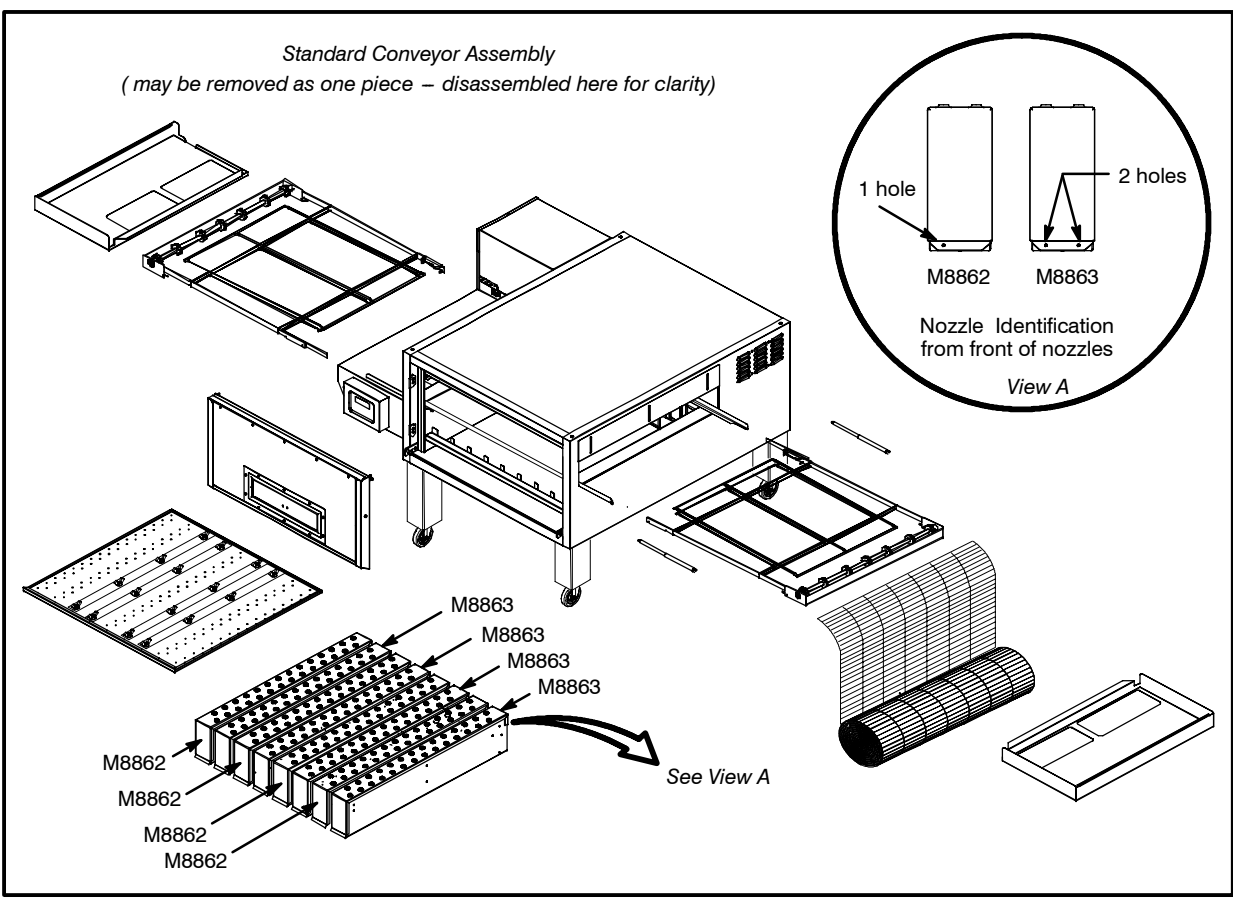

Figure 25
– Slide the belt out from one end. Be sure to roll the belt as shown in Figure 25. Otherwise the belt will be upside down when rethreading.
9. Reassemble the oven. Be sure the nozzles are installed in the correct order. See Figure 25.